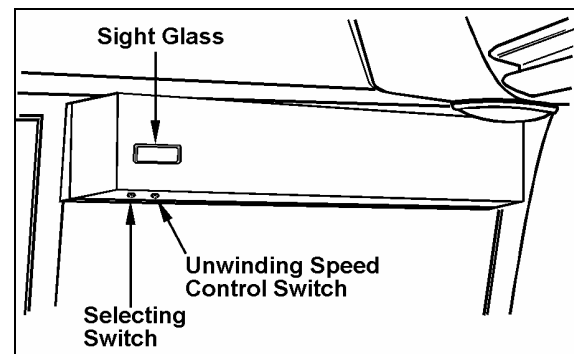

FIGURE 20: DESTINATION SIGN - ELECTRICAL 23122
located on the dashboard. The destination sign is electrically operated, two rocker switches mounted side by side on the destination sign control its motor. The unwinding speed control switch determines the rolling speed without actuating it. The selecting switch (momentary type) controls and actuates the rolling direction (fig. 20).
2. Insert projection at end of "BOBRICK" key into rectangular hole in cover (Fig. 20). Push straight in. While holding "BOBRICK" key in, turn cover counterclockwise about 1/8 turn.